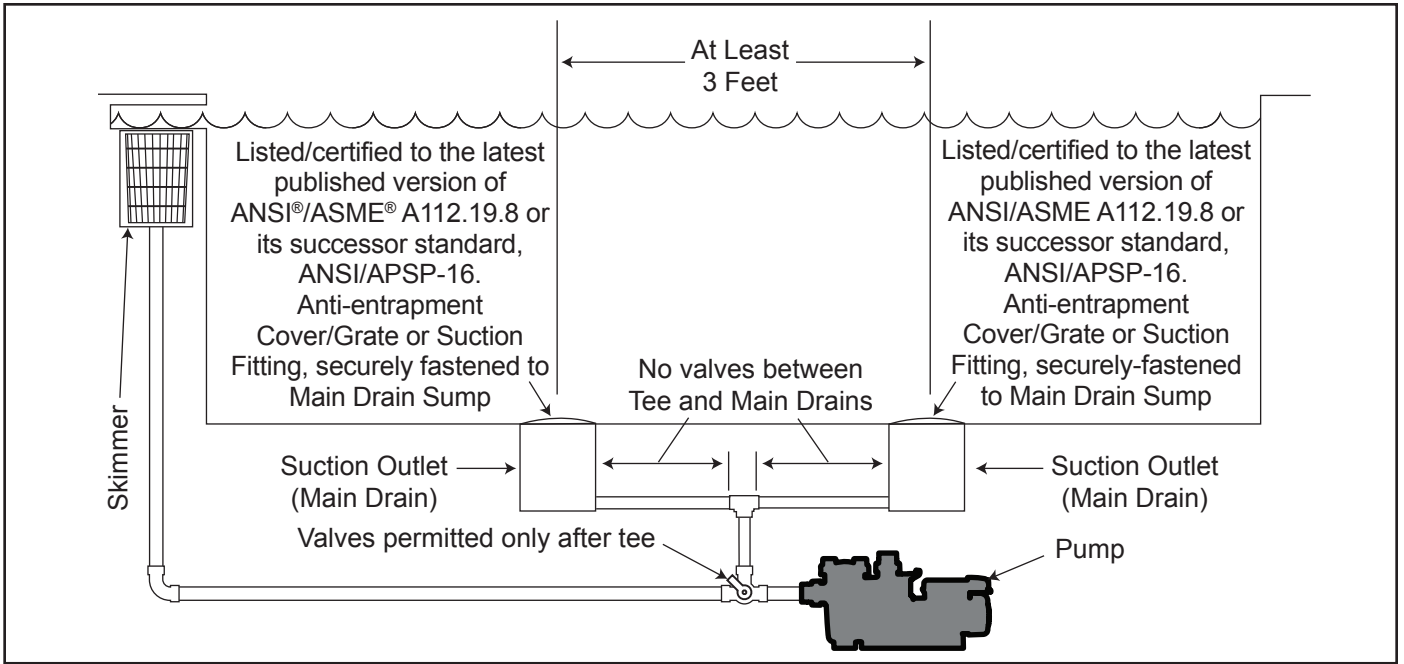

Figure 1. Number of Suction Outlets Per Pump
- **Number of Suction Outlets Per Pump** - Provide at least two (2) hydraulically-balanced main drains, with covers, as suction outlets for each circulating pump suction line. The centers of the main drains (suction outlets) on any one (1) suction line must be at least three (3) feet apart, center to center. See Figure 1.